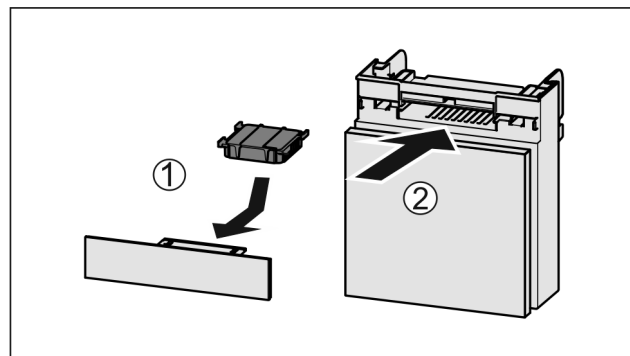

Fig. 68
- ▶ Insert the carbon filter as shown in the diagram Fig. 68 (1).
- ▶ Push the compartment in Fig. 68 (2).